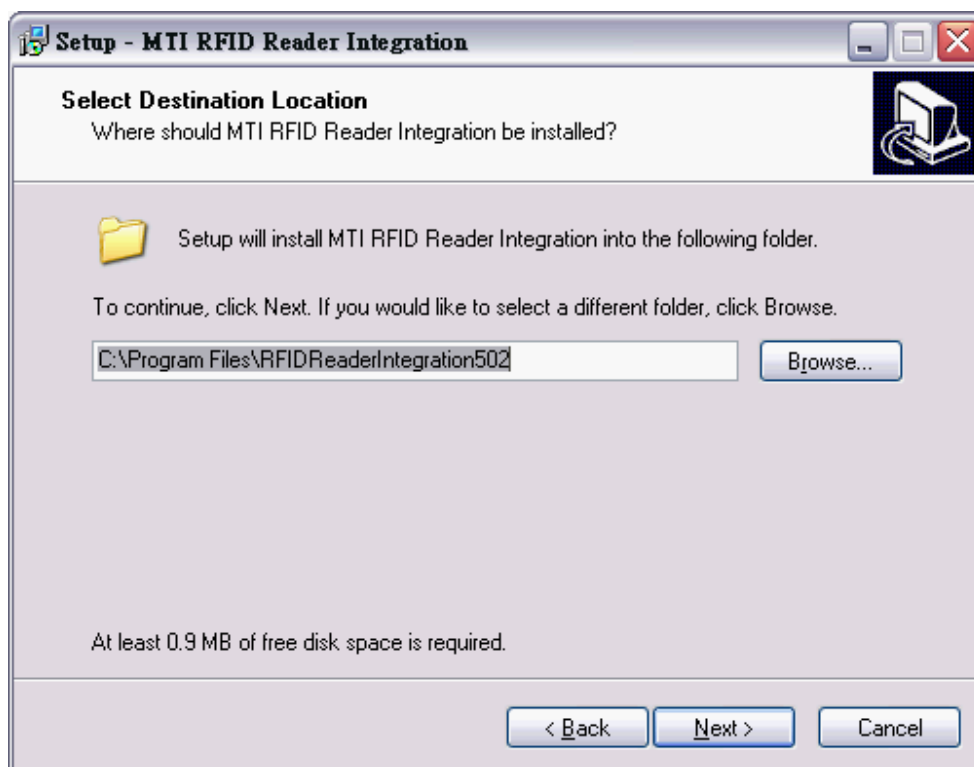

Fig. 3 Select the destination location to install.
Step 2: Select destination location where the program will be installed, shown in Fig. 3